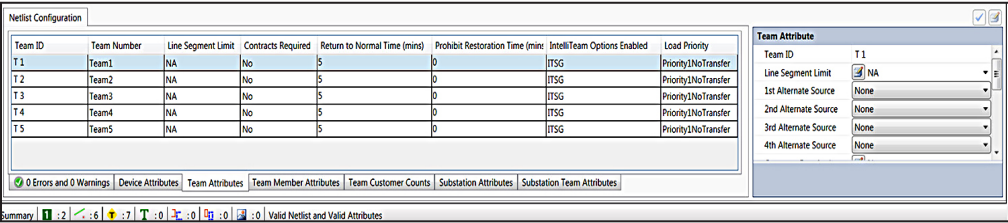

Figure 4. Using the Team Attributes tab to enable the Phase-Loss Isolation feature.
STEP 1. Enable the **Phase-Loss Isolation** feature with IntelliTeam Designer software by clicking on the **Team Attributes** tab, highlighted in Figure 4.